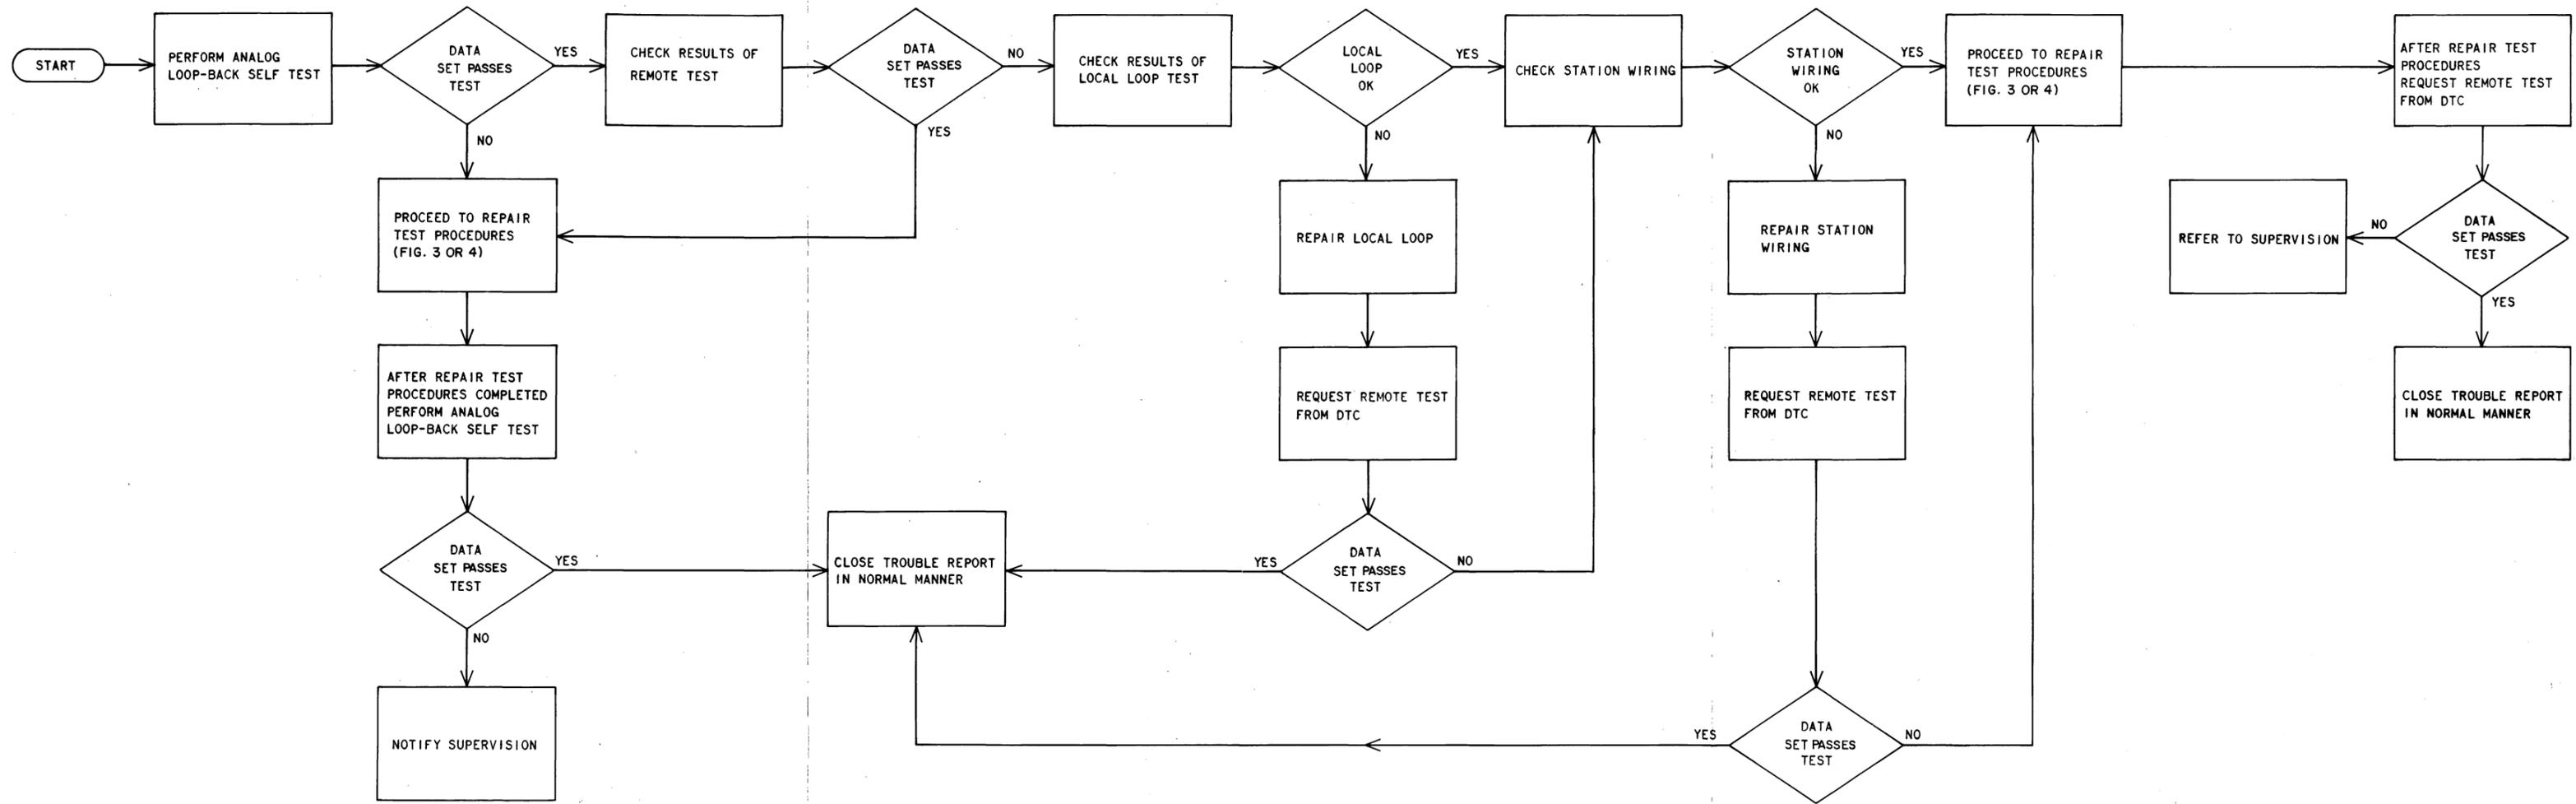
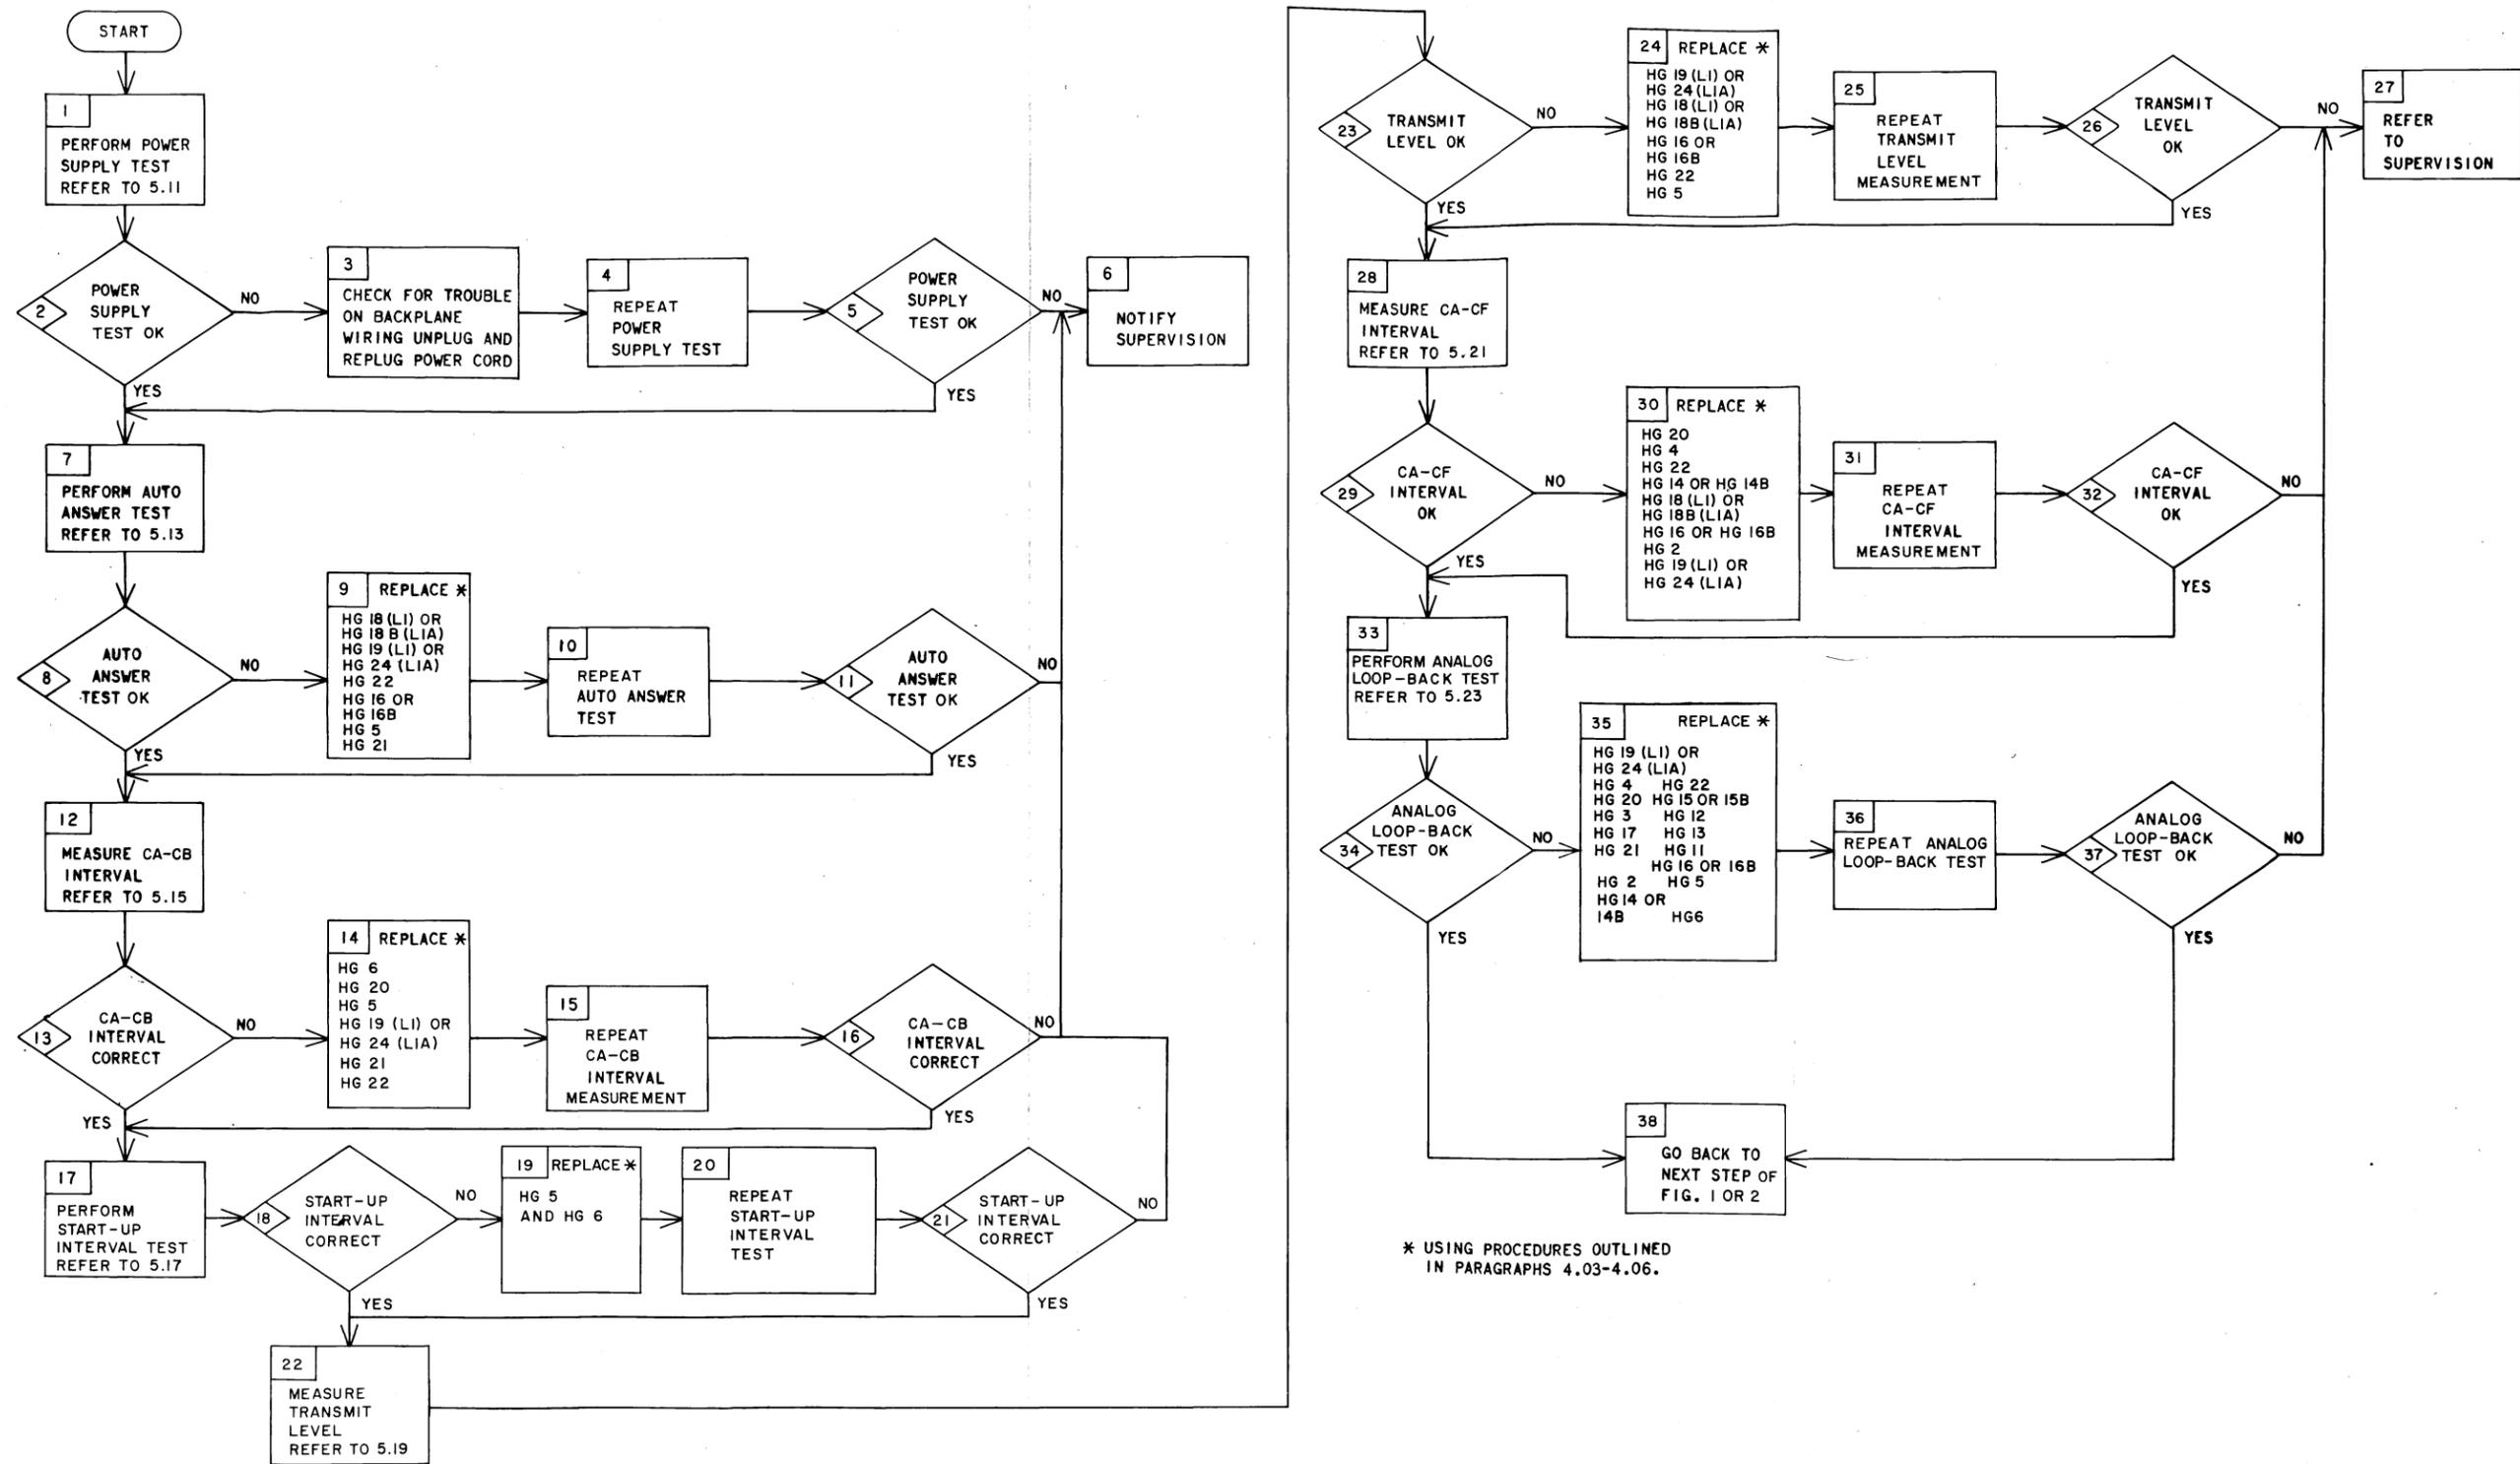
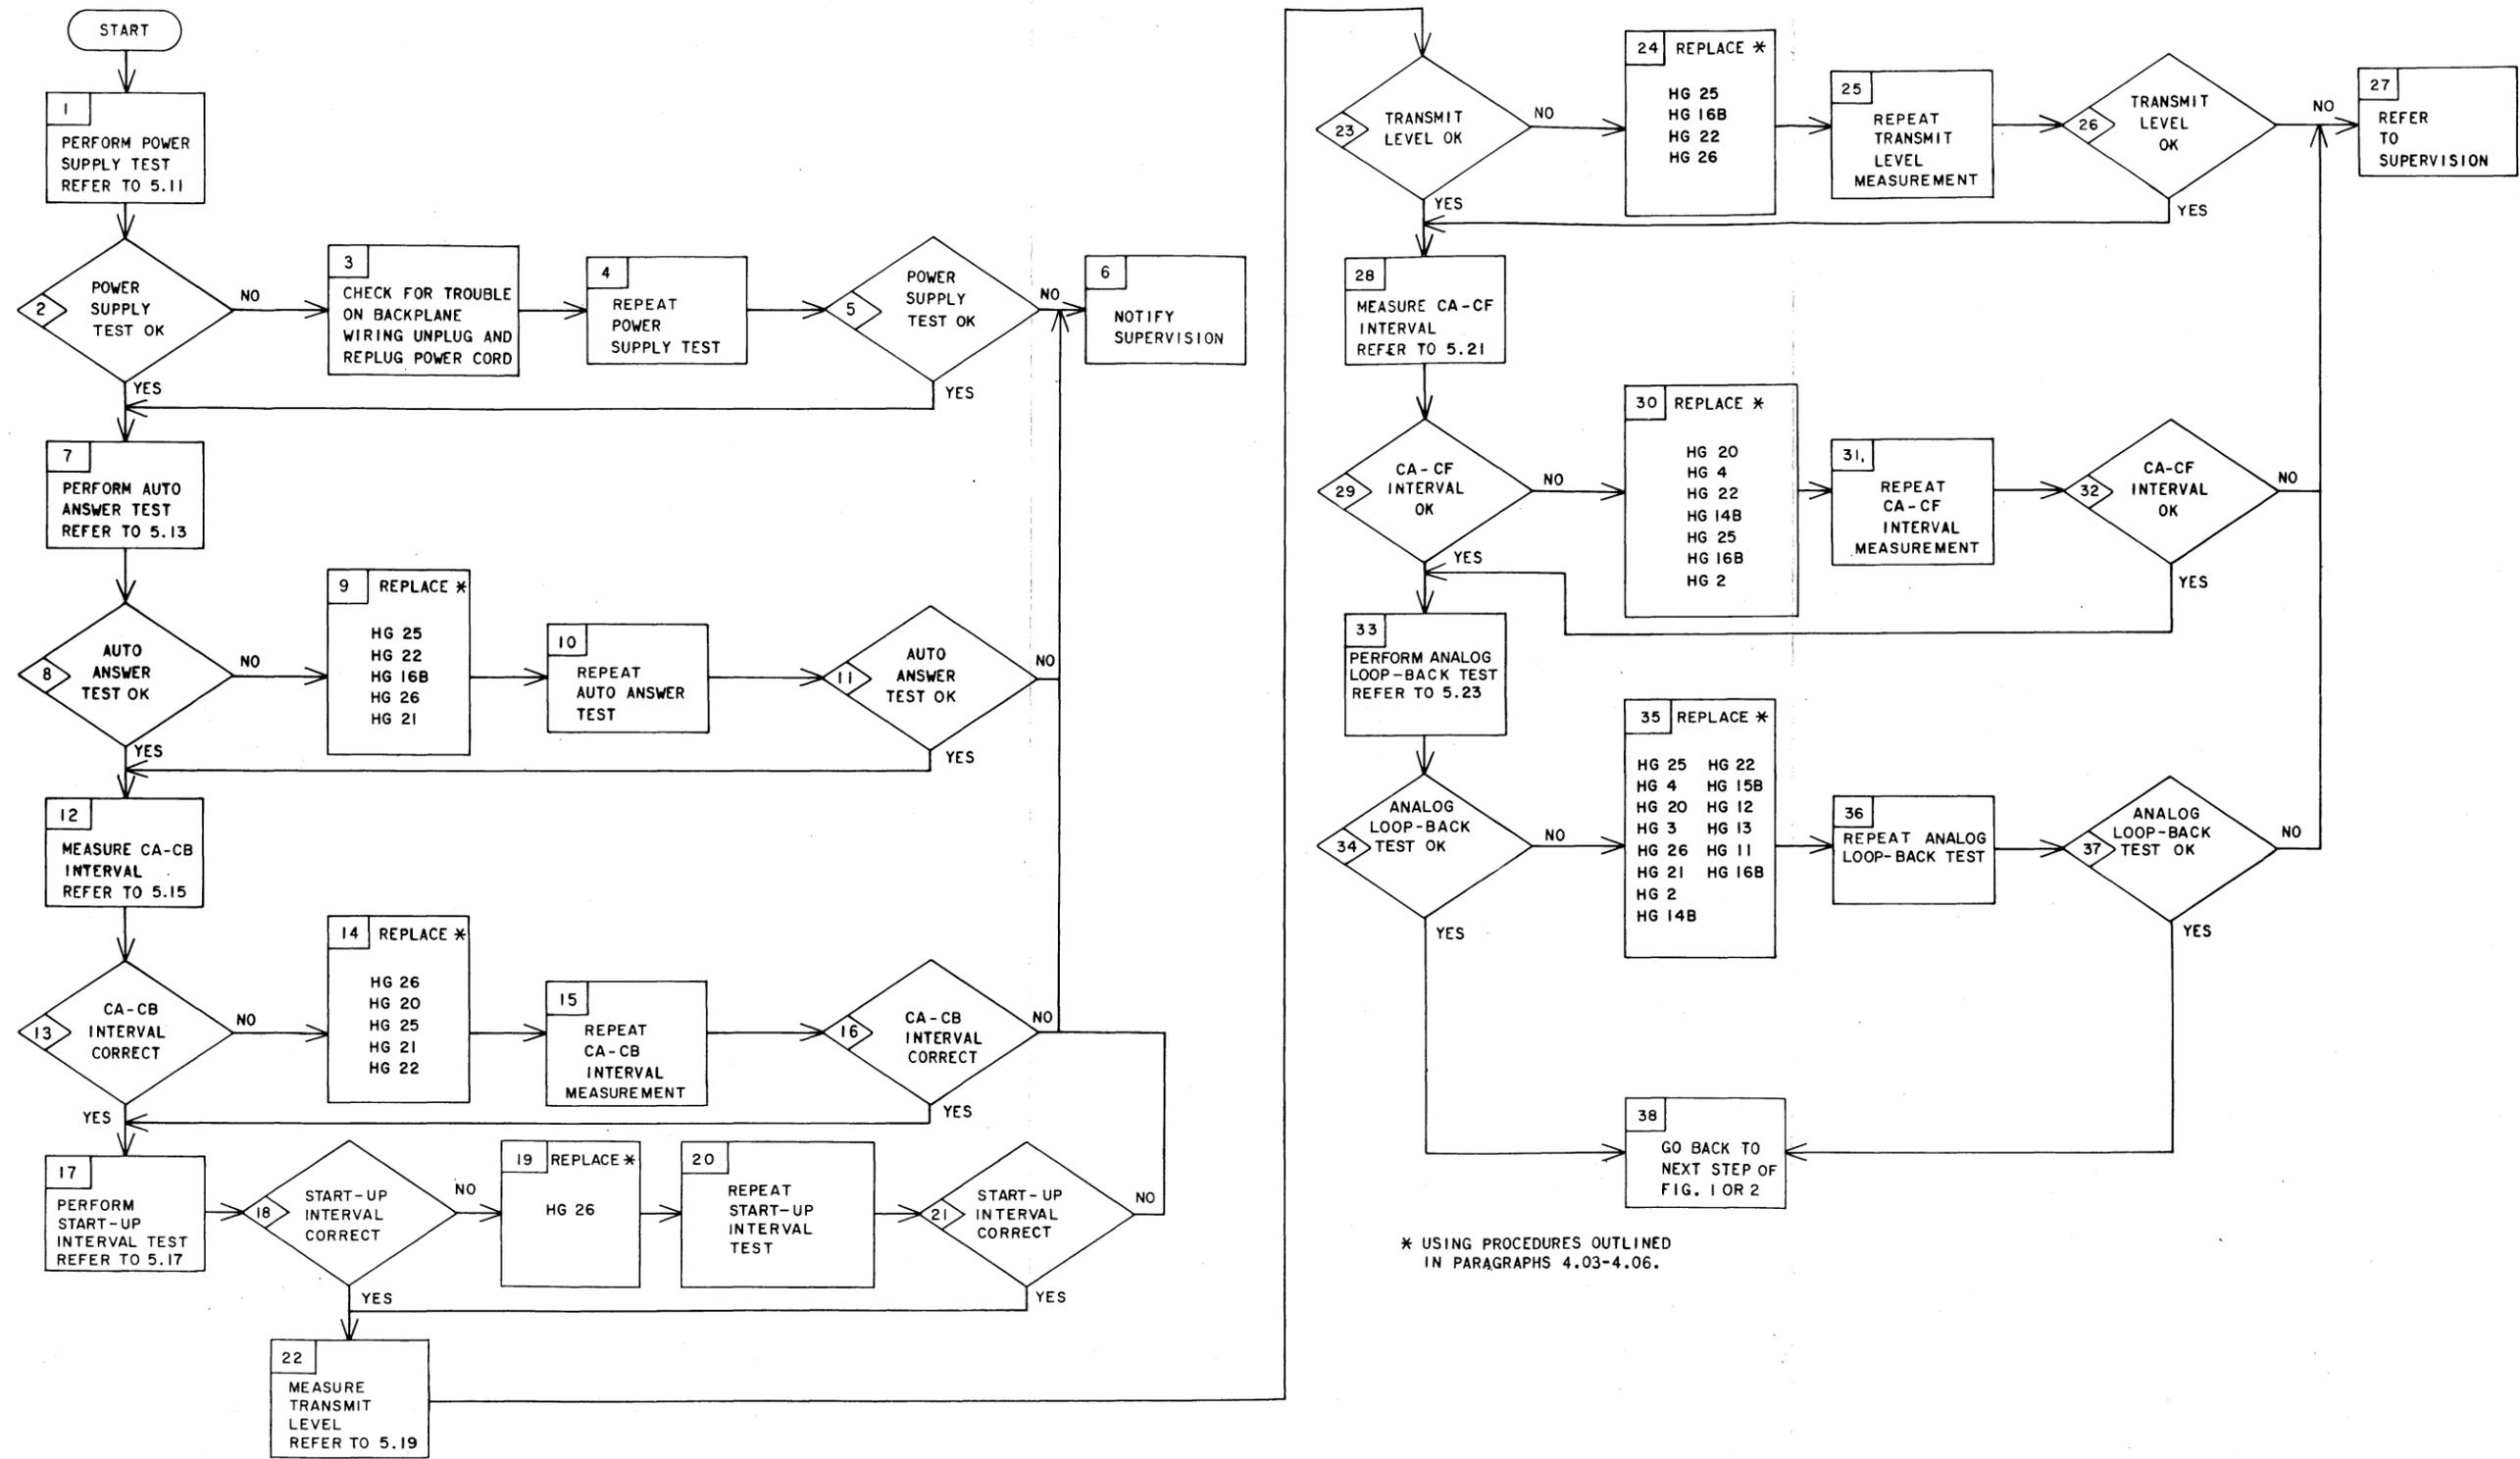

Fig. 2—Maintenance Test Procedures
Fig. 3—Repair Procedures for DS 208B-L1 and DS 208B-L1A
Fig. 4—Repair Procedures for DS 208B-L1B
**4.01** Maintenance testing involves troubleshooting to isolate trouble to either the local loop, station wiring, or data set. The maintenance testing procedure is outlined in Fig. 2. Once the trouble has been isolated to the data set, the repair test procedures in Fig. 3 (DS 208B-L1 and -L1A) or Fig. 4 (DS 208B-L1B) should be used to isolate the trouble within the data set to a circuit pack (CP). It is assumed that the maintenance procedures outlined in Section 592-030-300 have been followed prior to dispatching the telco employee.
**4.02** The overall repair test sequence is shown on the flowchart in Fig. 3 and 4. The test sequence is made up of six basic parts.
The End-to-End Test, Remote Start-up Test, Analog Loop Start-up Test, End-to-End Start-up Test, and Ground Noise Test are supplementary tests and are not specified in Fig. 3 and 4. These tests should be done as required.
**4.03** When any test shown in Fig. 3 or 4 (except the power supply) fails, a list of CPs associated with that particular test is given. The first CP in the list should be replaced with one that is known to be good, and the test repeated. If the data set still fails the test, the original card should be returned to the set and the next CP replaced. This procedure should be continued until a defective CP is located or the list of CPs is exhausted.
**4.04** Following the repair procedure should quickly isolate the trouble to a CP or group of CPs. It is evident that in all the tests, one of the CP replacements recommended is HG19 (208B-L1), HG24 (208B-L1A) or HG25 (208B-L1B). This is the interface CP and the majority of data and control signals appear on this CP. If HG19, HG24, or HG25 (or any other CP) has been replaced earlier in the test and further on it is a recommended replacement again, omit that replacement and proceed to the next CP in the CP replacement list in Fig. 3 or 4.